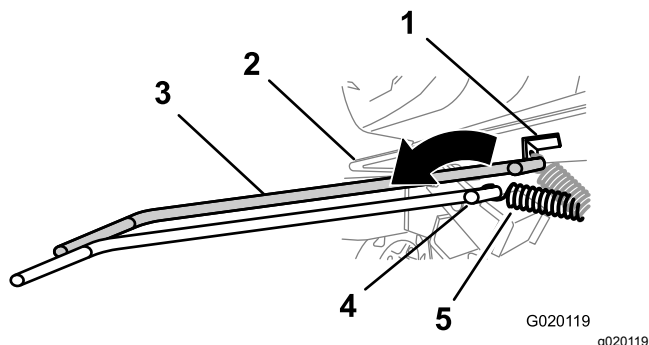

Figure 47
7. Using a spring-removal tool (Toro Part No. 92-5771), remove the spring from the anchor bracket on the engine deck (Figure 47).
7. Using a spring-removal tool (Toro Part No. 92-5771), install the tension spring to the anchor bracket on the engine deck (Figure 47).